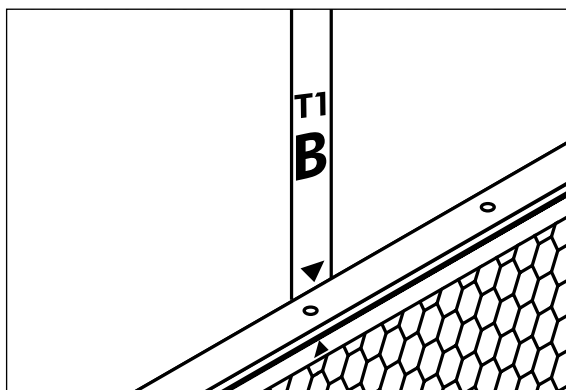

Figure AP-11: Multiple tower labels.
- D. When **multiple towers** are going to be assembled, each tower will be identified by the label “T” and the number of tower, for example: **T1, T2, T3**, etc. See Figure AP-11.